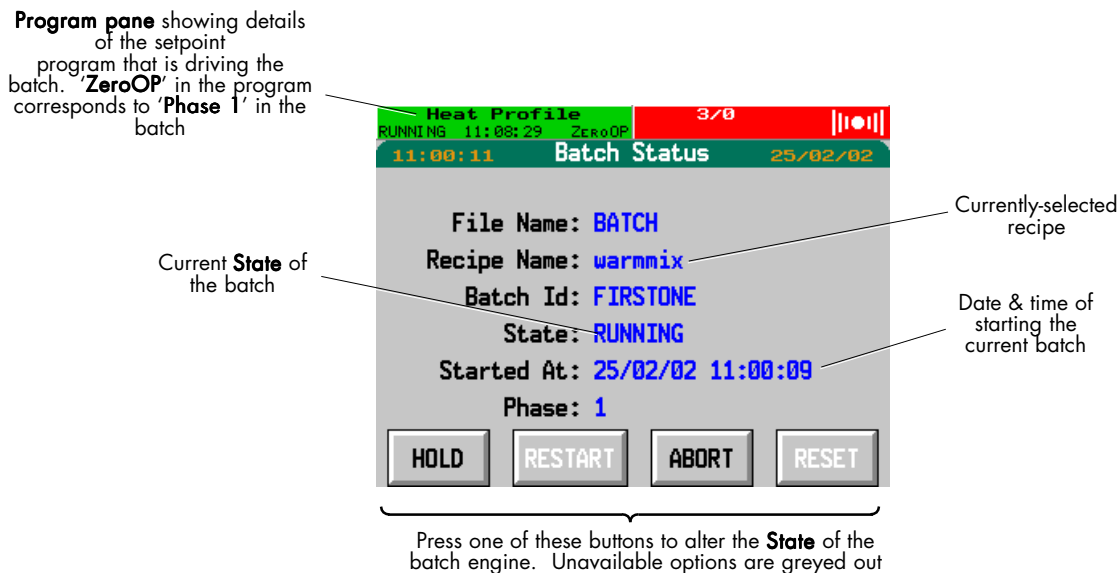

Figure 6-2 Batch Status screen (phase 1 in the 'FIRSTSTONE' batch)
- 4 Press **START** to start the batch. The **Batch Status** screen appears, telling you what is currently happening with the batch. Figure 6-2 shows what you might see at this initial stage.